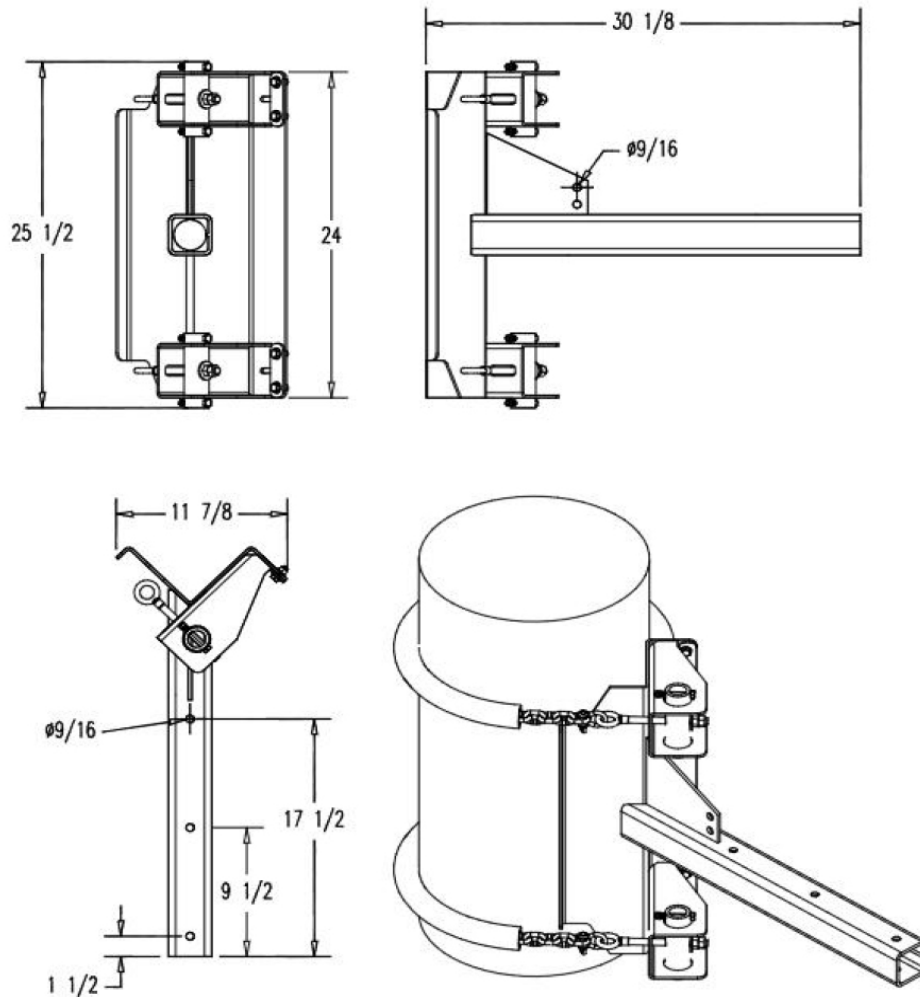

Figure 1: Key Dimensions (All values are given in inches).
- See Figure 1 for more key dimensions.